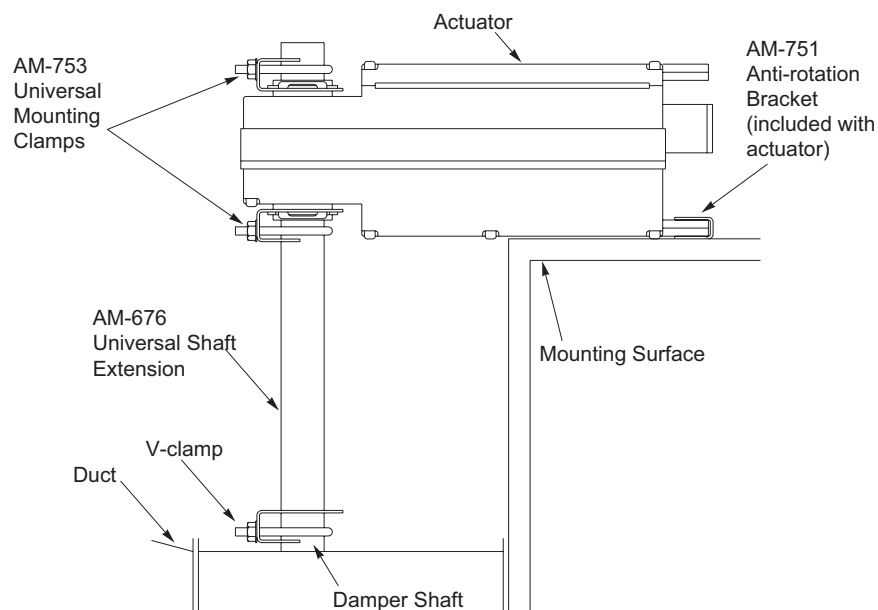

Figure-13 Installation of Universal Shaft Extension.
See Figure-13 for installation of actuator using the AM-676 Universal Shaft Extension. Installation requires AM-676 Universal Shaft Extension and AM-753 Universal Mounting Clamps for 3/4" to 1" (19 to 25 mm) shafts, these items must be ordered separately.
6. Assemble the damper actuator onto the universal shaft extension, allowing the extension to slide through the actuator's universal mounting clamps. Make sure the actuator is 90° (perpendicular) to the damper shaft. Then, hand tighten the nuts on both of the actuator's universal mounting clamps. See Figure-13.
9. Position the actuator and bracket in the desired final mounting position on the mounting surface and drill mounting holes. See Figure-13.
16. Verify that the damper is in its full-closed position and actuator at 90° (perpendicular) to the damper shaft. See Figure-13.